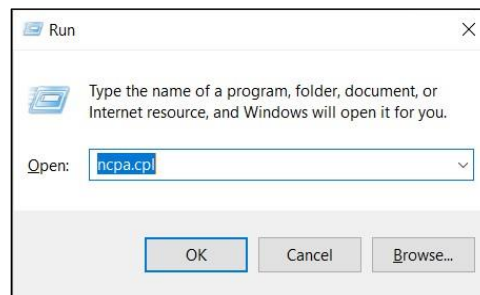

Figure D.1. Run the `ncpa.cpl` to Open the Network Connections Control Panel
1. Set up the following hardware connections, as shown in Figure D.1.